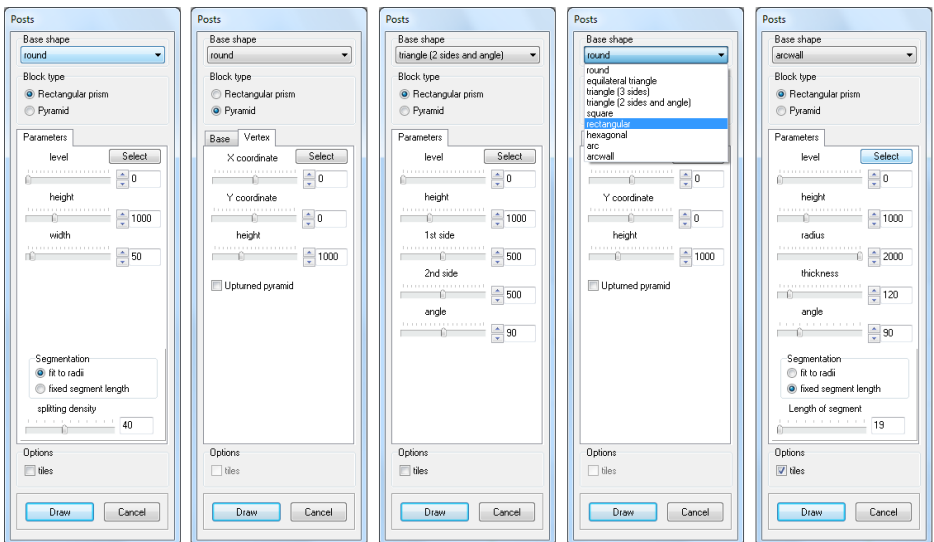

Fig. 127 – various variants of options available in Posts dialog
**Posts and walls** (under icon ) are used for creating basic solids without preparing templates for them. They are cuboids or pyramids of different bases (also: upturned pyramids). This function of dynamic 3D modeling can be used for creating various decorative elements. Various objects: posts, columns, pilasters and partition walls of different kinds - are created on the basis of a single point indicated by the user directly after clicking the **Posts and walls** icon, and the parameters defined in the dialog displayed below (in all possible variants - Fig. 127).
- In the new dialog box (Fig. 127) choose the type of the post and define its parameters (there are two main types to choose from - cuboid (default) and pyramid, and a number of various basis: round, square, triangle etc.);